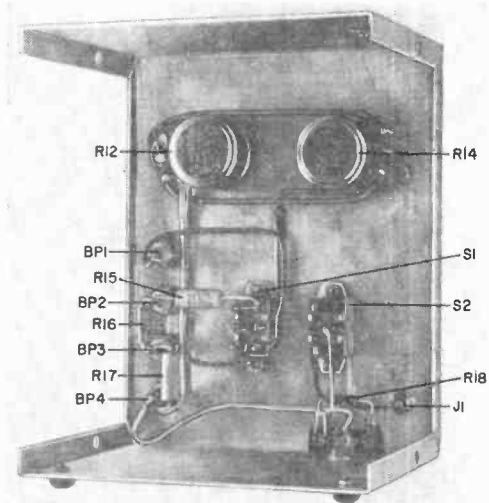

Fig. 2. Rear view of front panel showing component mounting. The four rubber feet are optional.
**Construction.** The audio voltage standard is assembled in a 6" × 5" × 4" metal enclosure, whose front-panel layout is shown in Fig. 2. The rest of the components are mounted on a pair of printed-circuit boards attached to the back of the front panel. Two circuit boards are used so that the twin-T frequency-determining network can be a separate, interchangeable unit. It is mounted on the main PC board using three 5/8"-high aluminum-alloy spacers and three 4-40 binder-head screws. Thus when it is desired to change the basic operating frequency of the standard, it